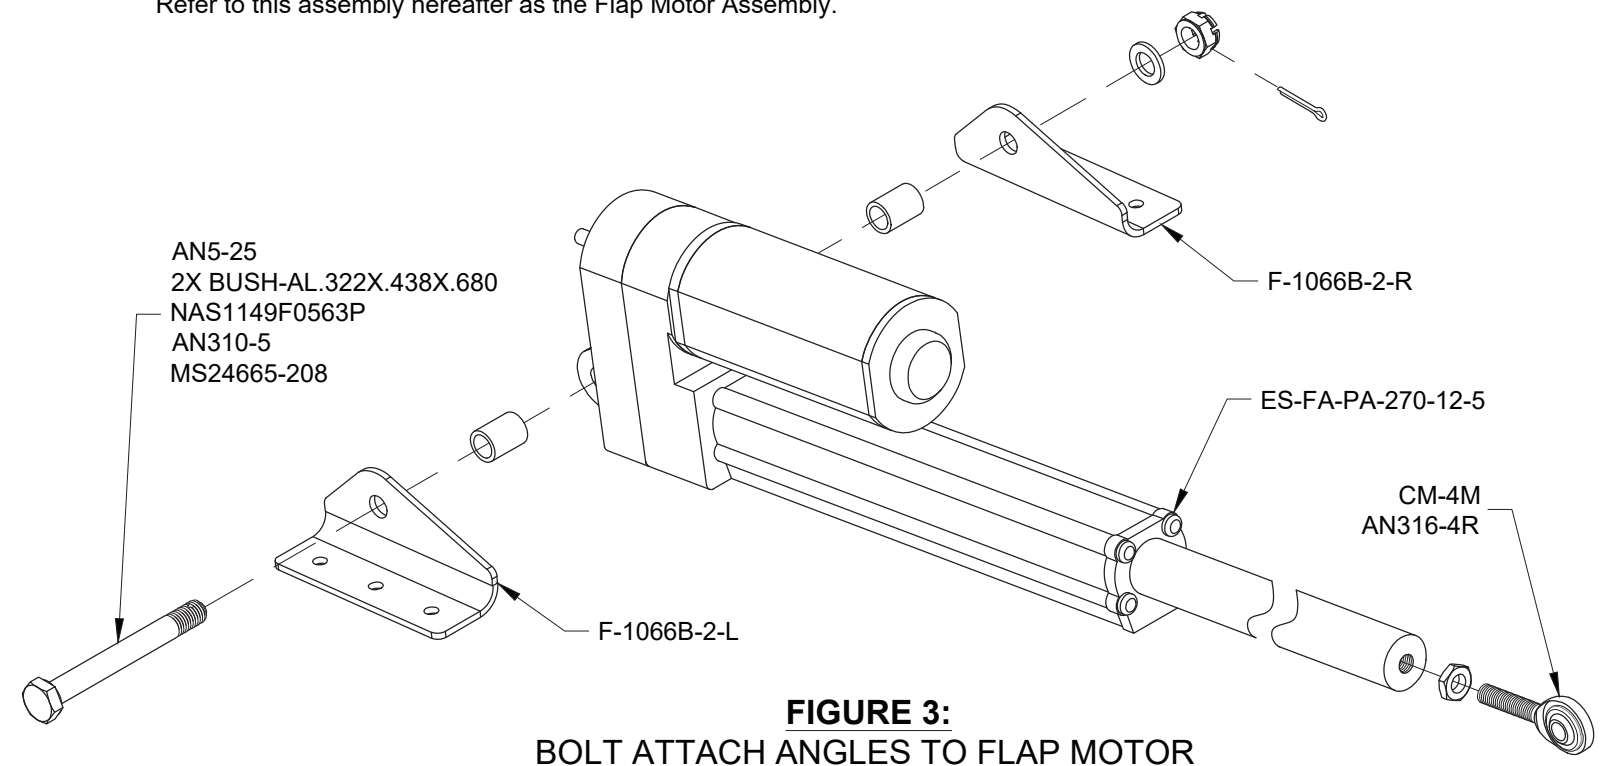

FIGURE 3:
Step 3: Install the jam nut and rod end bearing into the shaft of the ES-FA-PA-270-12-5 flap motor as shown in Figure 3.
Step 5: Assemble the ES-FA-PA-270-12-5 Flap Motor, F-1066B-2-L and F-10966B-2-R using the hardware and bushings called out in Figure 3. Tighten the castle nut just enough to remove end play but not enough to add excessive friction. The cotter pin will be installed later.
Step 3: Check for excessive friction and/or play. When satisfied install the cotter pin from Page 40-6, Figure 3.